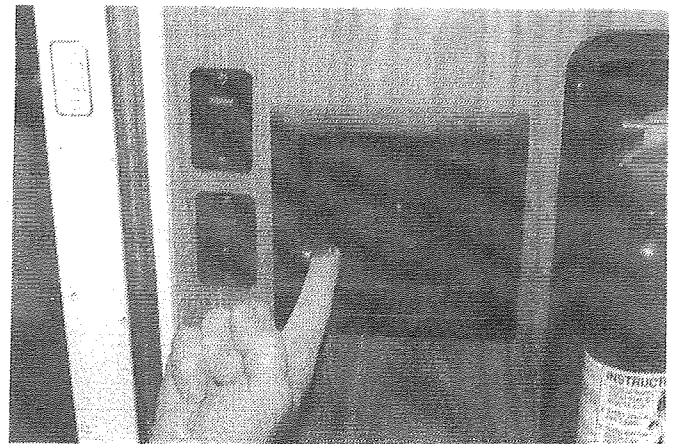

FIGURE 6
2. Lift the toggle switch and hold in position to raise the top assembly. See Figure 6. Allow the top assembly to fully extend. See Figure 7. Release the toggle switch.